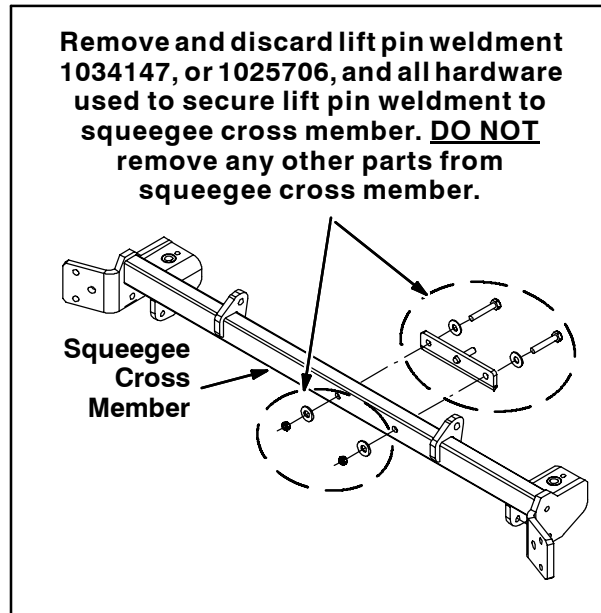

FIG. 4
1. Remove the lift pin weldment from the squeegee cross member. Discard the lift pin weldment and all hardware. Refer to Fig. 4.